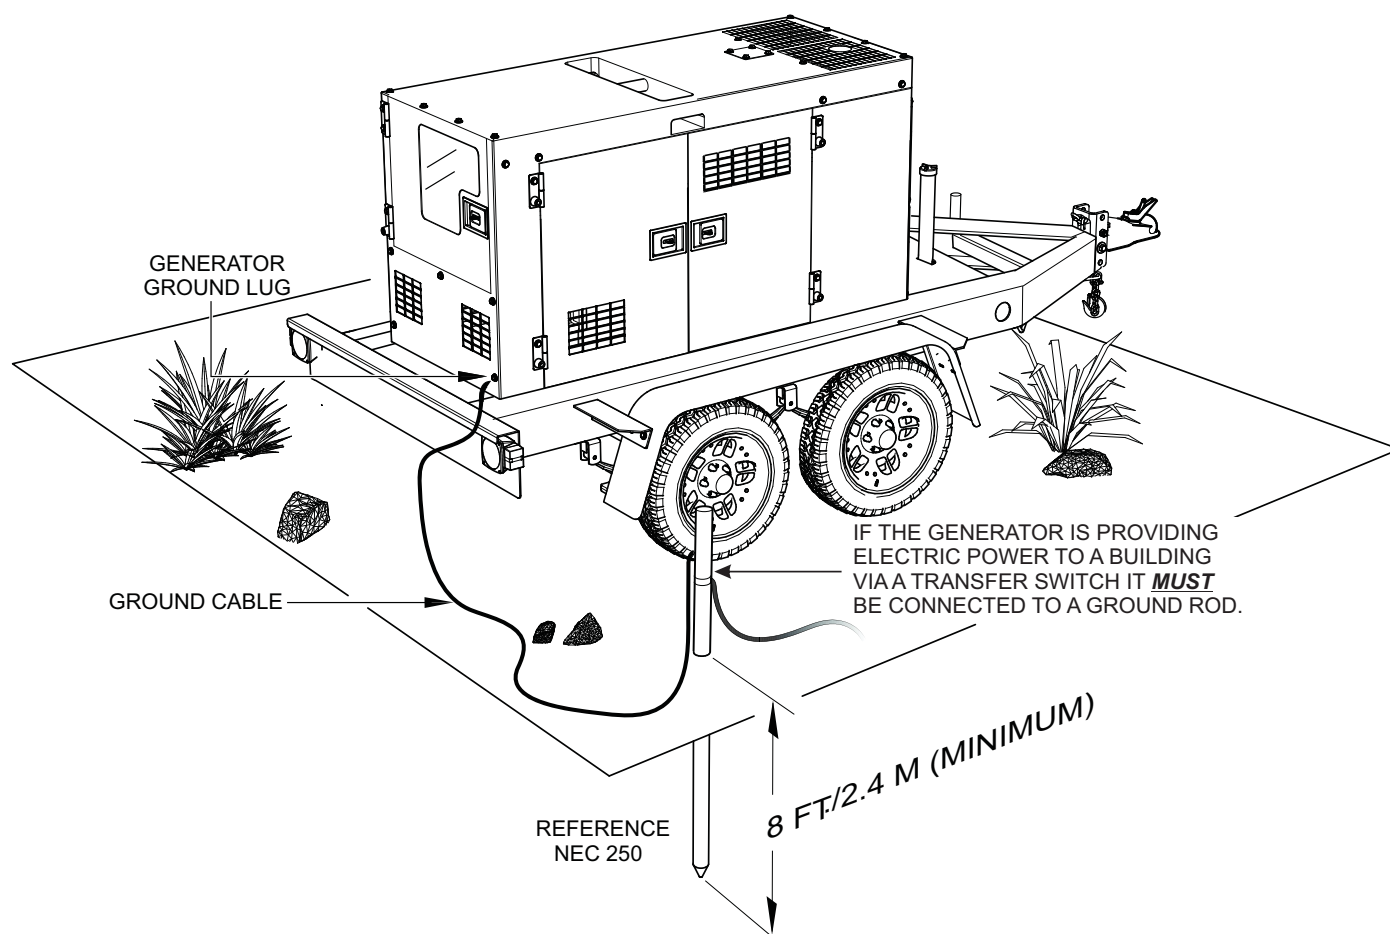

Figure 4. Typical Generator Grounding Application
Connect one end of the ground cable terminal to the generator ground point (Figure 4). Connect the other end of the ground cable to a suitable earth ground (ground rod).
The Occupational Safety and Health Administration (OSHA) and the National Electrical Code (NEC) recommend that if the generator is providing electrical power to a structure (home, office shop, trailer or similar) it **must** be connected to a grounding electrode system, such as driven ground rod Figure 4.
If applicable, to guard against electrical shock and possible damage to the equipment, it is important to provide a good **EARTH** ground, (Figure 4).
2. When grounding the generator (Figure 4) is required, connect one end of the ground cable to the ground lug on the generator. Connect the other end of the ground cable to the ground rod (earth ground).